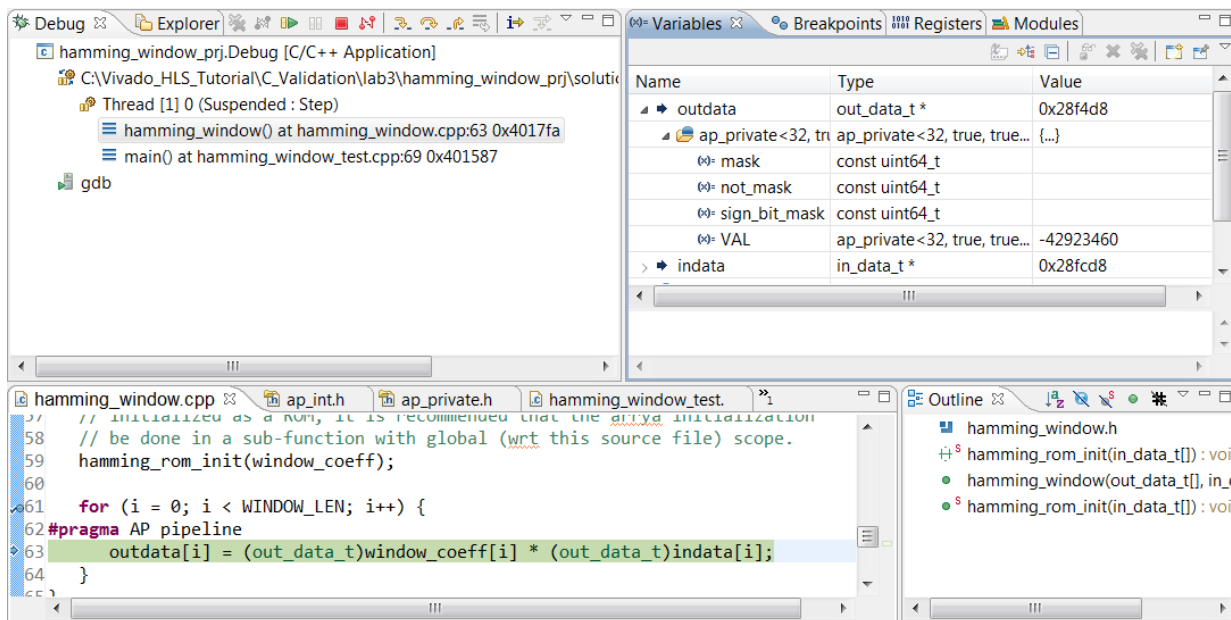

Figure 3-21: Arbitrary Precision Variables
10. Expand the `outdata` variable, as shown in Figure 3-21 to see the value of the variable shown in the VAL parameter.